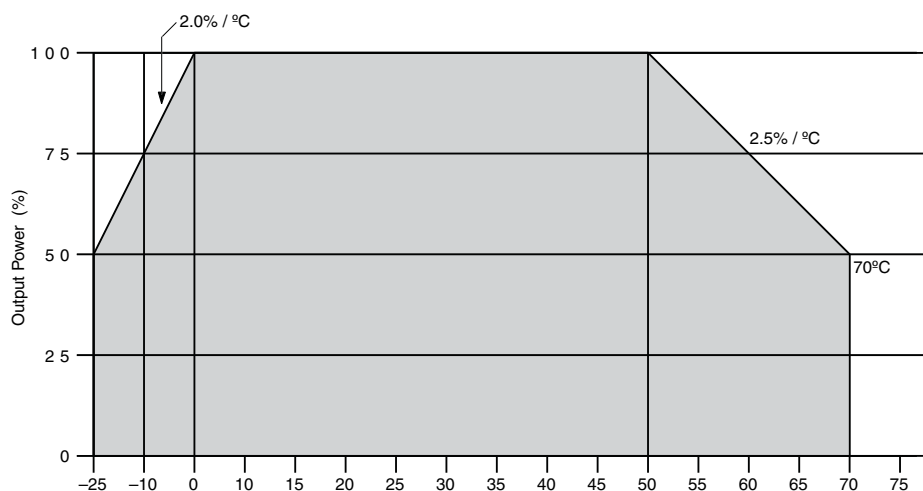

Figure 3. Temperature Derating
Operating Temperature	0 to +50°C @ full rated power; -25 to +70°C @ 50% rated power (see Figure 3)
Cooling	Free air convection with derating (see Figure 3 and Technical Notes)
- 9. Temperature Derating (See Figure 3):** All DMS-PS-CM supplies are specified to operate at their full rated power over the temp range of 0°C to +50°C in still air (convection cooling) without any thermal derating. For operation over +50°C in still air, derate the output power linearly by 2.5% per °C down to 50% rated power at +70°C. To operate the units at full rated power between +50°C and +70°C, a minimum forced-airflow of 100 LFM is required. For operation below 0°C, derate the output power linearly by 2.0% per °C down to 50% rated power at -25°C.